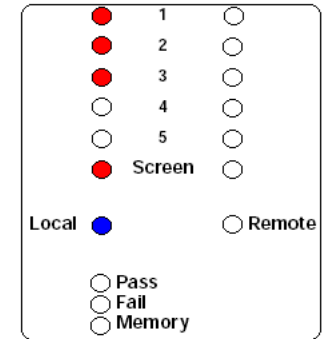

Fig 13. Ready to store cable in memory.
1. Once again at the 'local' screen LED on position press and hold until the MEMORY LED lights (Fig13).